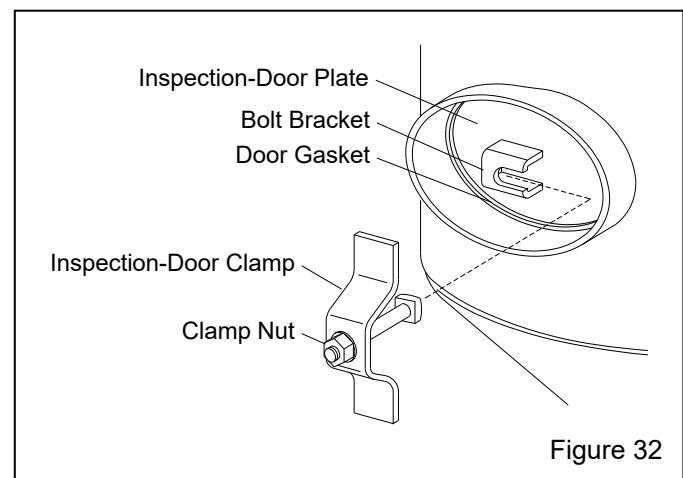

Figure 32
1. Loosen the inspection-door clamp nut enough to slide the clamp bolt from behind the bolt bracket; then remove the clamp, bolt, and nut, as an assembly, as shown in Figure 32.